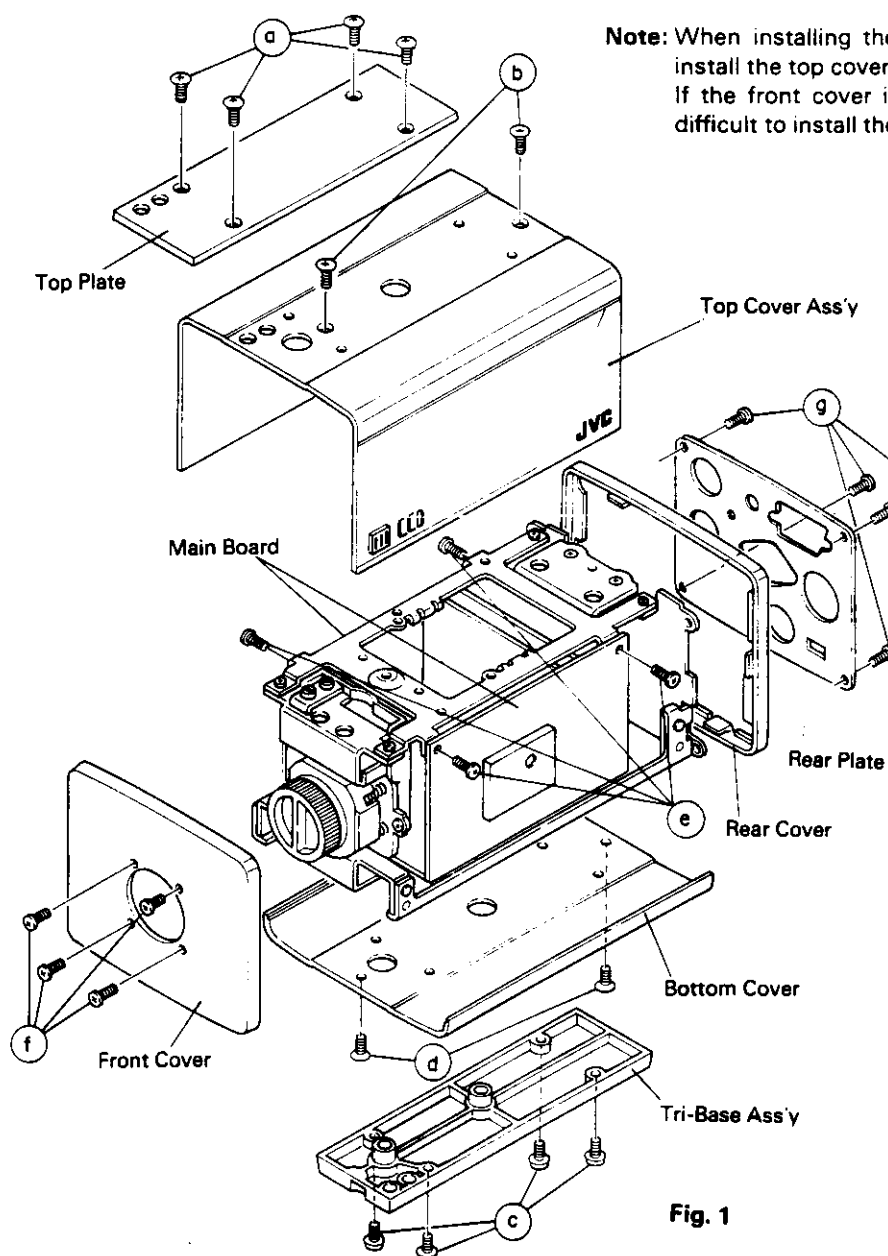

Fig. 1
- (1) Remove the four screws ③ shown in Fig. 1 to remove the top cover.
- (2) Remove the two screws ⑤ shown in Fig. 1 to remove the top cover ass'y by lifting it up.
- (1) Remove the four screws ② shown in Fig. 1 to remove the tri-base ass'y.
- (2) Remove the two screws ④ shown in Fig. 1 to remove the bottom cover.
- (1) Remove the four screws ⑥ shown in Fig. 1, and both left and right mother PC boards can be removed.
- (1) Remove the four screws ⑦ shown in Fig. 1.
- (1) Remove the four screws ⑧ shown in Fig. 1.